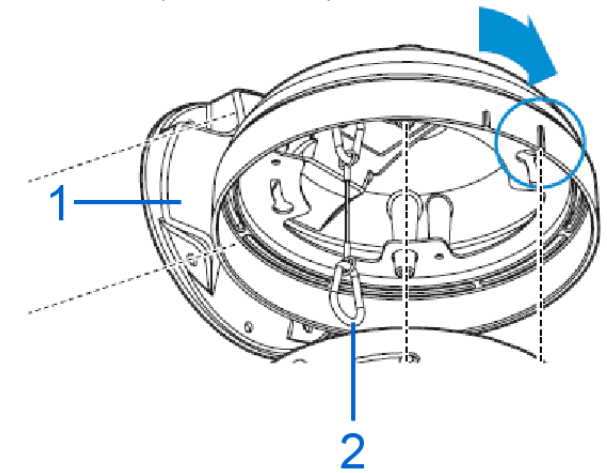

Figure 2
2. Align the holes on the mounting plate with the holes on the wall mount base (1) (Figure 2) and hold the mounting plate and wall mount base up to the mounting surface.
5. Attach the safety lanyard (2) (Figure 2) to the 'hook' on the mount cover and the 'hook' on the camera base.